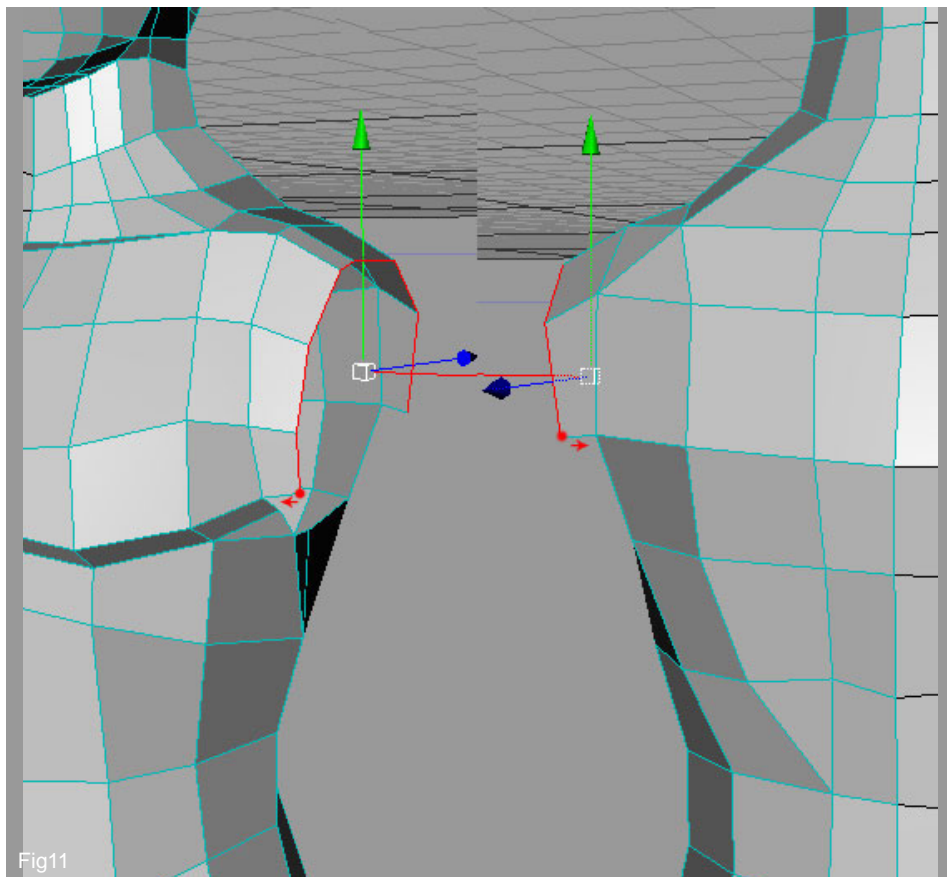

Fig11
9. It's time to extend the arms. Continuing from our torso in the previous tutorial, select the top edges and extrude them, as shown in Fig11. Now weld the two verts in red to the corner indicated by the arrows.